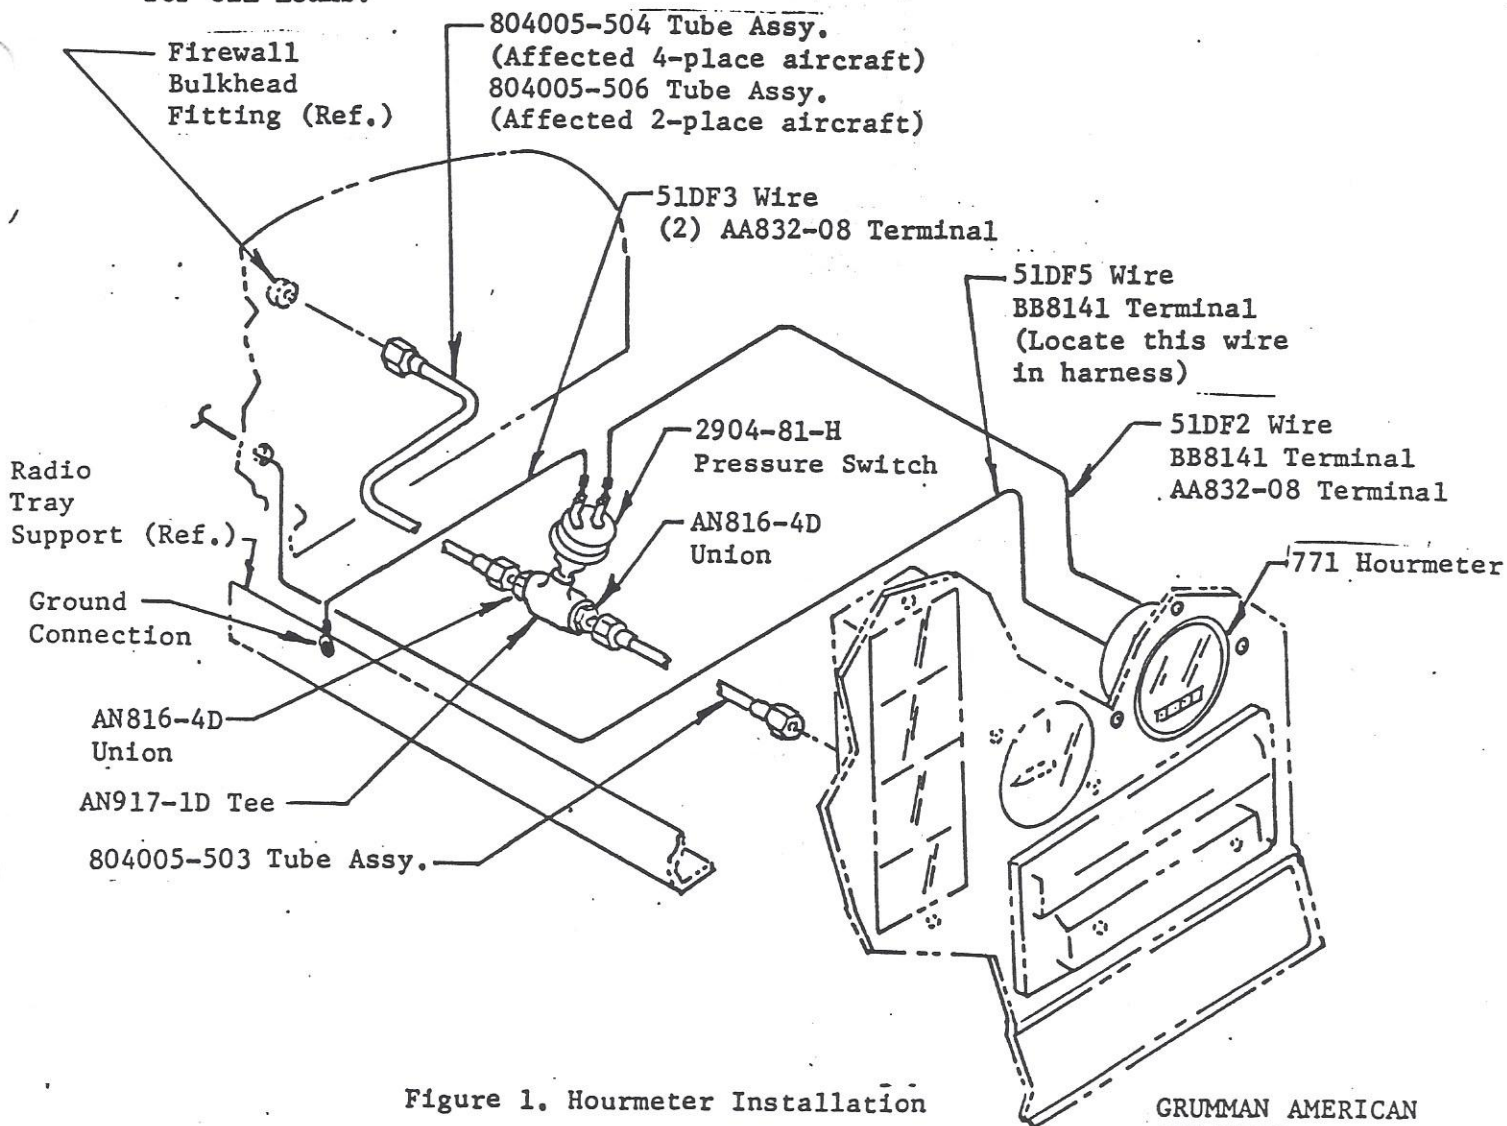

Figure 1. Hourmeter Installation
Installation Instructions (Refer to Figure 1.)
2. Remove existing oil line from firewall to oil pressure gauge. Pre-assemble the pressure switch and replacement oil lines, as shown in Figure 1, and attach to firewall bulkhead fitting and oil pressure gauge.
3. Fasten BB8141 and AA832-08 Terminals to the 51DF2 Wire and attach between hourmeter and pressure switch. Fasten (2) AA832-08 Terminals to the 51DF3 Wire and attach one end to the pressure switch. Ground opposite end of the 51DF3 Wire, by attaching to existing ground connection at the radio tray support. In the absence of a ground connection at the radio tray support, insure ground continuity and attach to other convenient ground source.